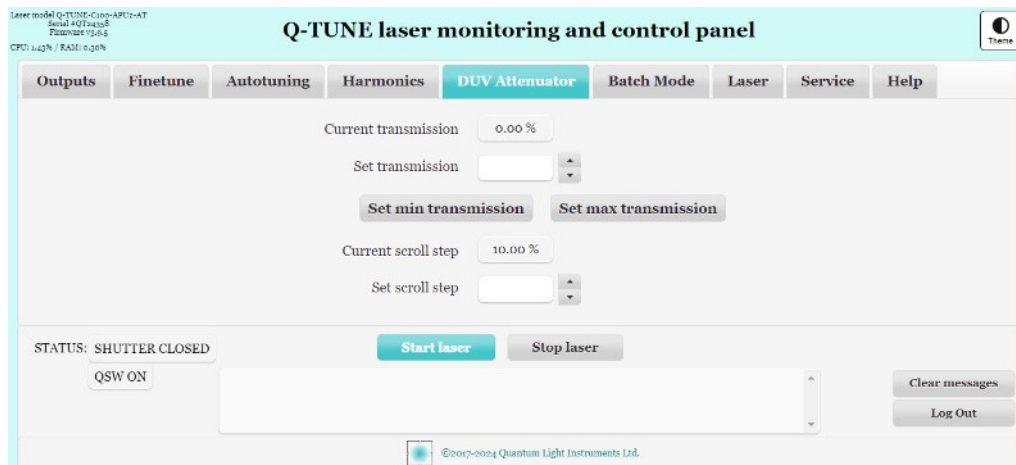

Figure 18: Change of laser output pulse energy by **optional** attachable attenuator
2. Pulse energy can be changed by changing the transmission (0 – 100 %) of the attenuator in laser user interface “OPO Attenuator” window (Figure 18).
Access points to interlock signals can differ, depending on laser model. Most lasers have interlock BNC connectors mounted on the rear panel of the APU unit (a), others have interlock free-hanging (pigtail) interlock BNC connectors as part of cable assembly (b), see “Figure 18. Possible “Interlocks” configurations”.